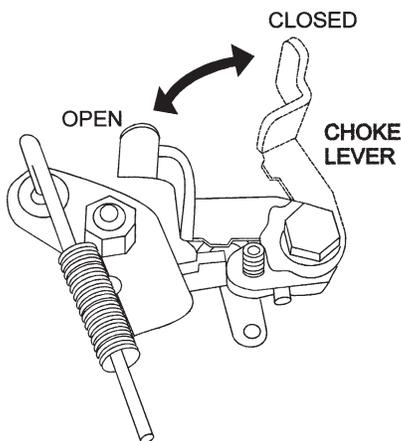

Figure 10. Choke Lever (Closed)
- In cold weather, start the unit with choke lever "**Fully Closed**" (Figure 10). In warm weather or when the engine is warm, the unit can be started with choke halfway or completely **open**.
- If engine fails to start, move the choke lever (Figure 10) to the half open position to avoid flooding.